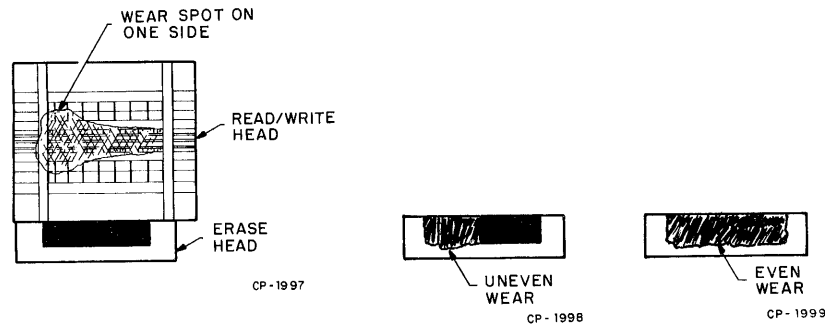

Figure 5-5 Examples of Head Assembly Wear Characteristics
- Using a penlight flashlight, inspect the read/write head and erase head for oxide accumulation. A worn head will normally show oxide accumulation on the worn spot. If the read/write head is unevenly worn or if the erase head shows any wear, replace the head plate assembly. (Refer to Figure 5-5; shiny spots indicate uneven wear.)